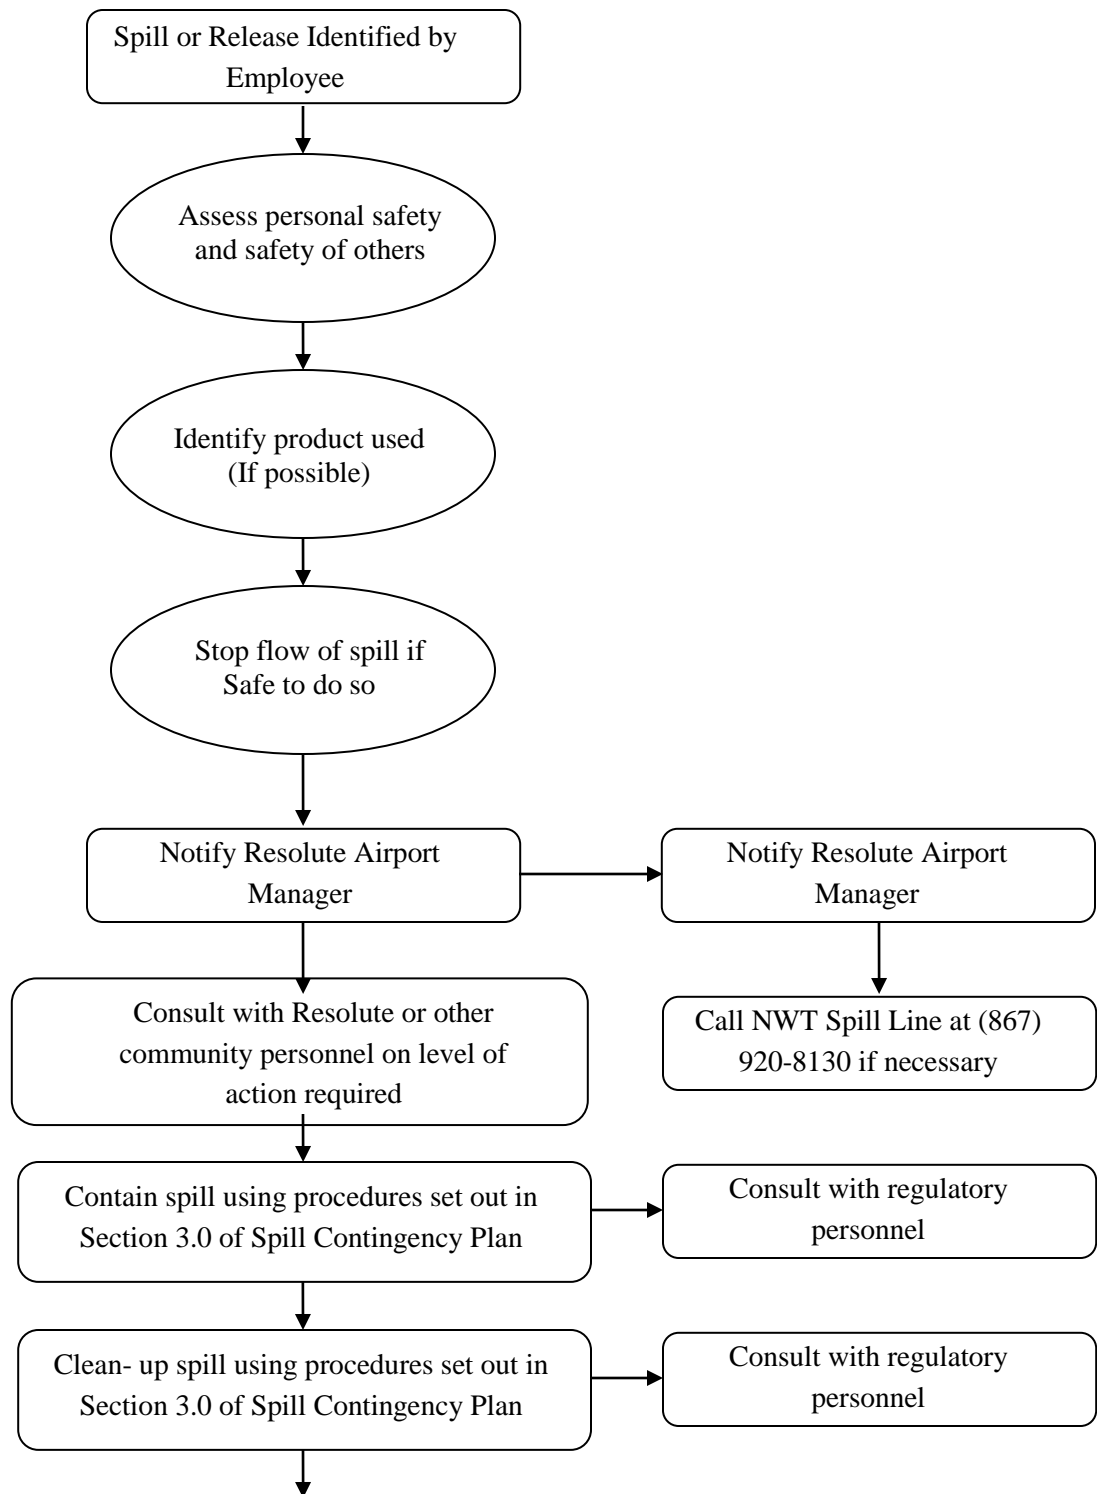

Figure 5: Flowchart of Spill Communication Lines
- Contact GN-ED&T Resolute Airport Manager, as per flowchart in **Figure 5**.